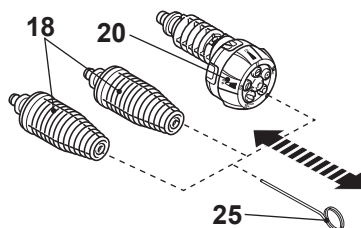

Fig. 24
Remove any dirt deposits from the nozzle (18/20) hole using the cleaning needle (25) (Fig. 24).